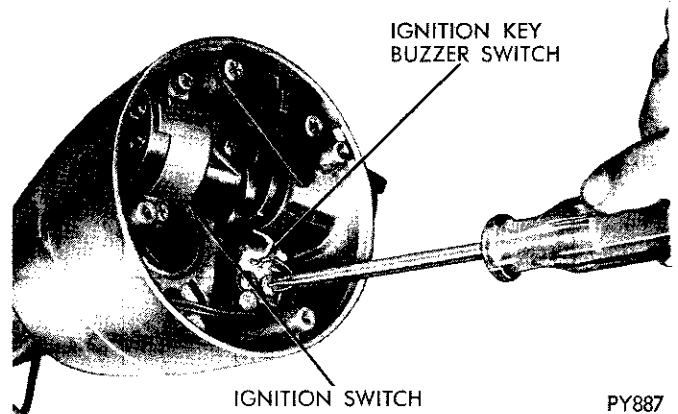

Fig. 9—Ignition Key Buzzer Switch
- (1) Remove two screws and lift out buzzer switch (Fig. 9).
- (2) Remove two retaining screws and the lock lever